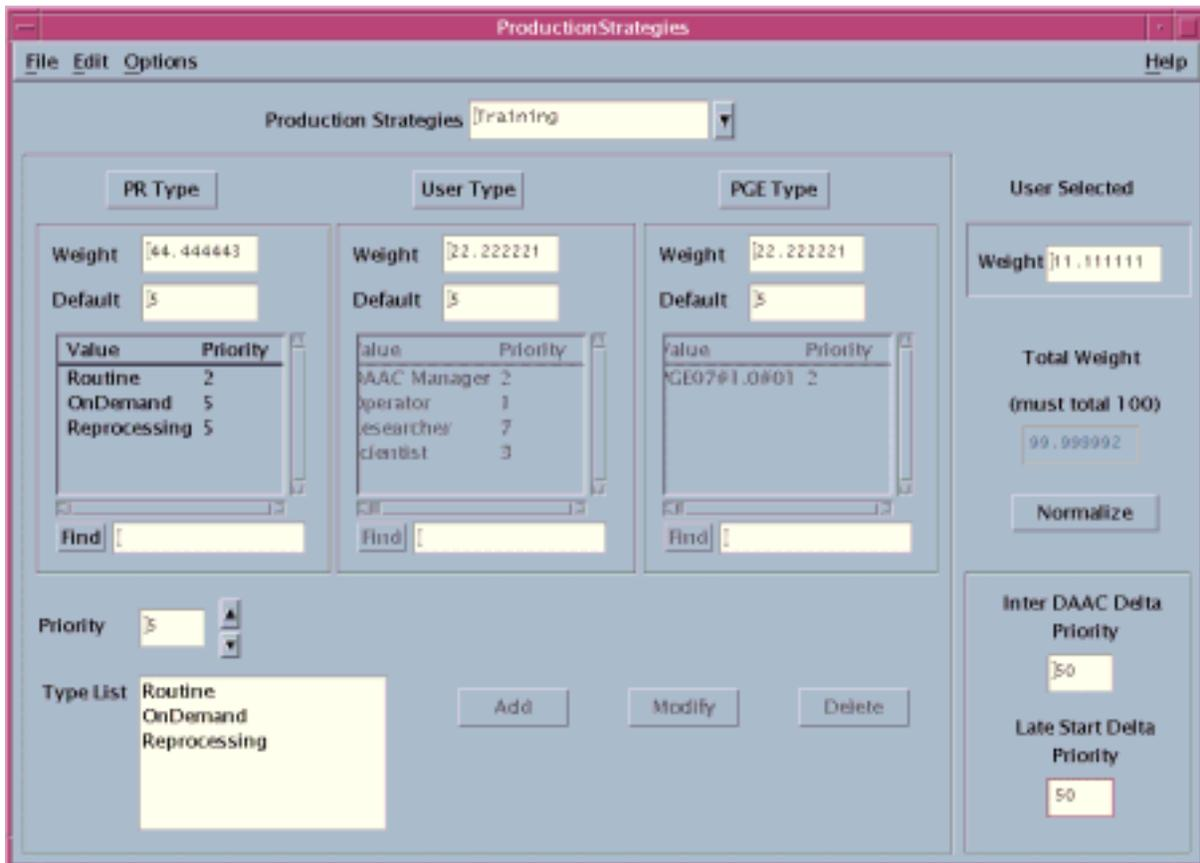

Figure 31. Production Strategies GUI
- The **Production Strategies** GUI (Figure 31) is displayed.
The procedure for defining a production strategy starts with the assumption that all applicable servers are currently running and the **Production Strategies** GUI (Figure 31) is being displayed.
- The fields of the **Production Strategies** GUI (Figure 31) are reset.
- Data pertaining to the selected production strategy are displayed in the applicable fields of the **Production Strategies** GUI (Figure 31).